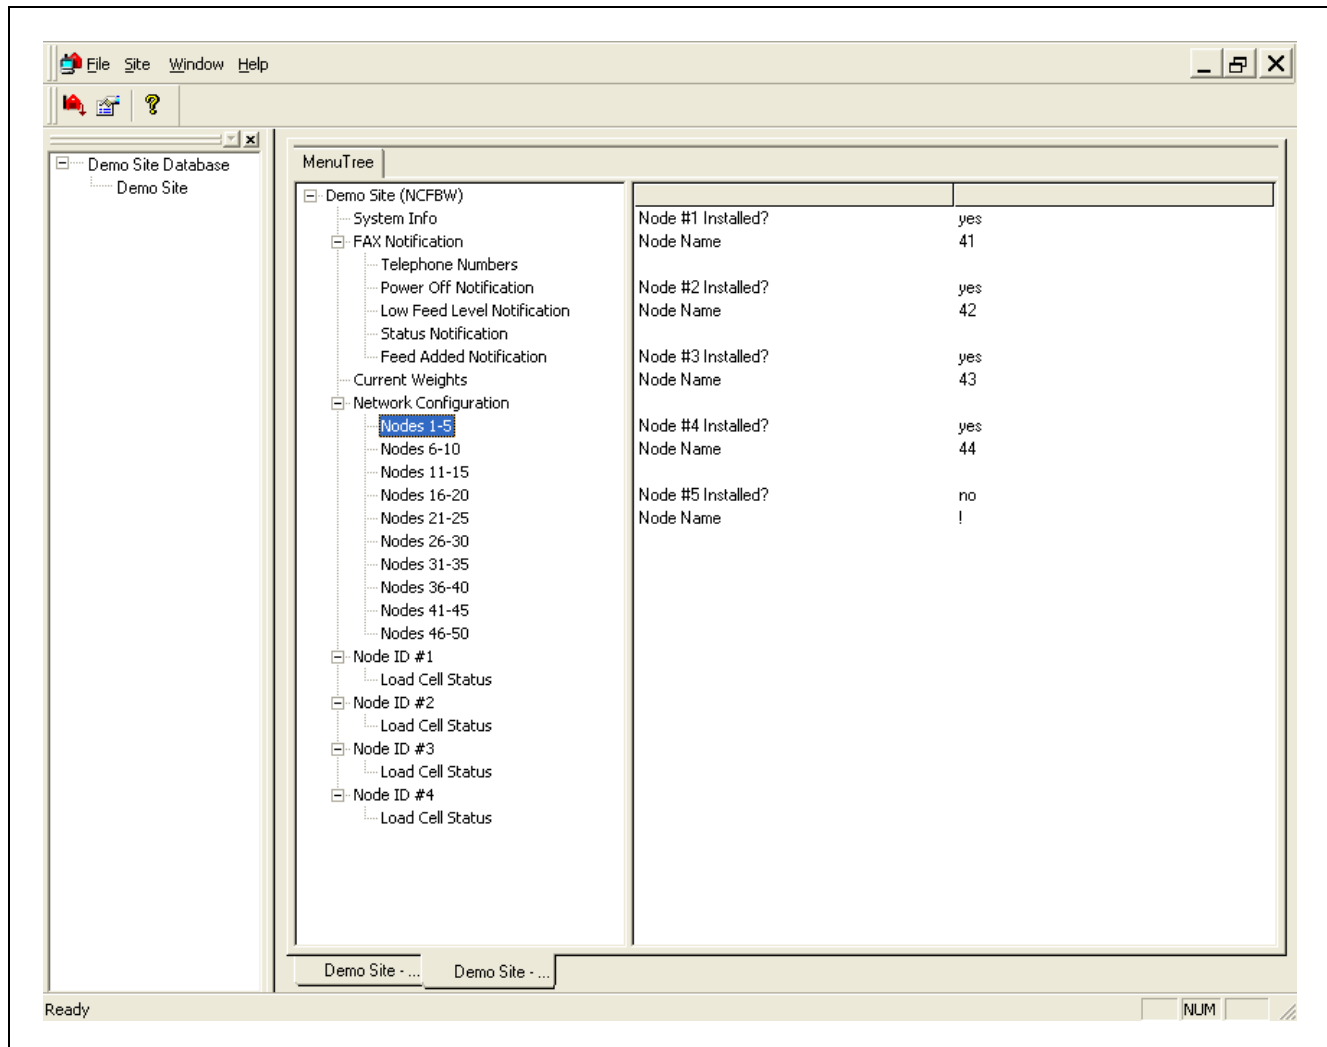

Figure 11P Network Configuration
Selecting network configuration does two (2) things: it tells the network collector this bin node ID is present on the network and can be communicated with, and also sets up a name the bin node ID represents. This bin node name is how the bin will be identified in the faxes. The node name is a text field and can be any alpha numeric name. \(See Figure 11P.\)